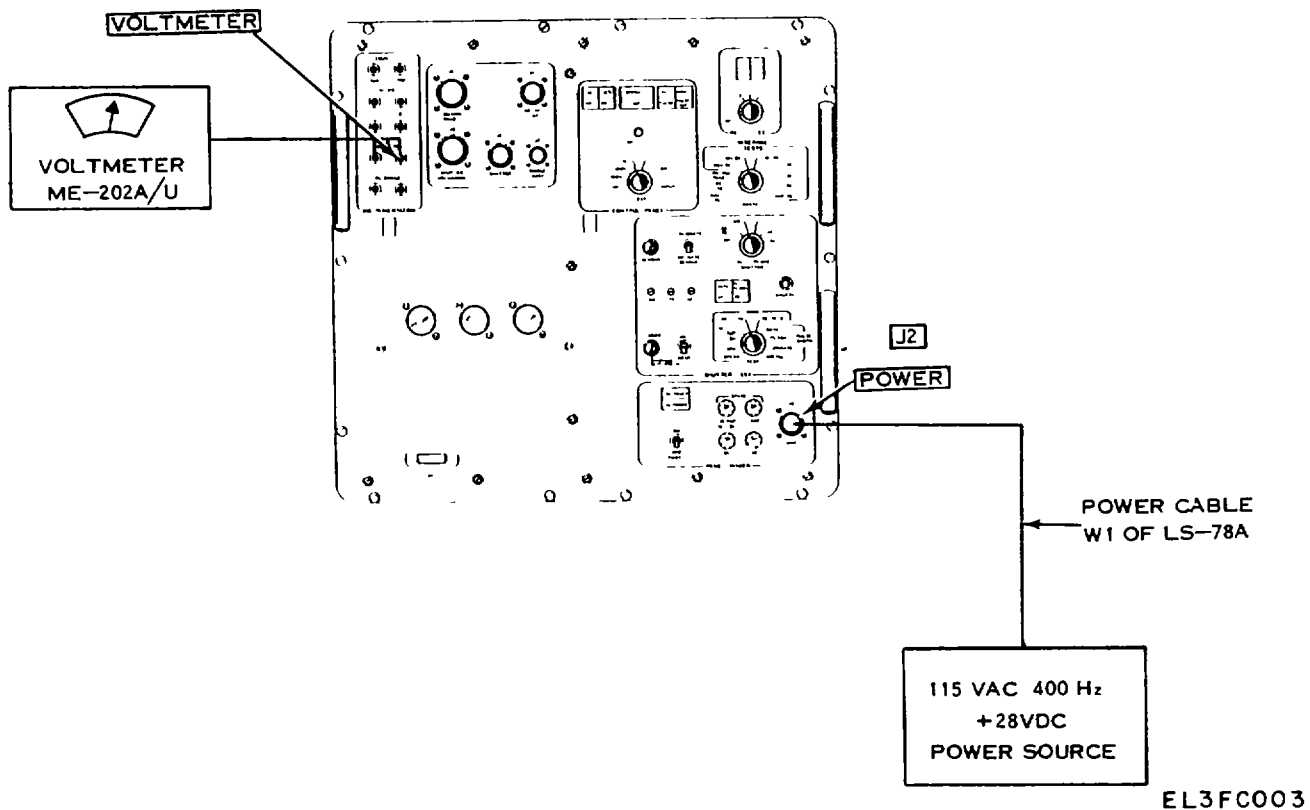

Figure 3-1. Operational check, test setup.
- g. Connect test equipment as shown in figure 3-1 and perform the steps of the following general operational check (table 3-2) in the order given to check the shutter test set electrically.